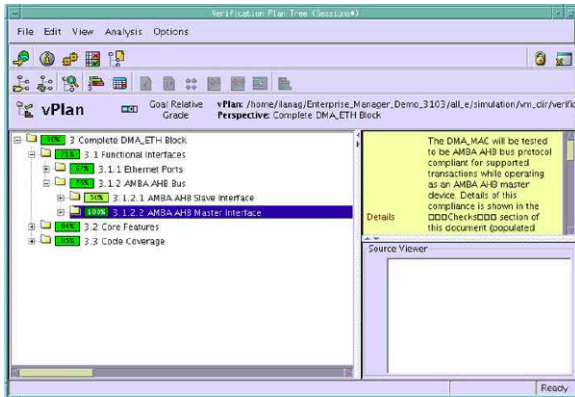

Figure 2: Coverage grades mapped to the features in the plan
- Have a plan that is always kept up-to-date and is executable. Your total coverage results after regressions will be mapped directly into your plan. This is what your progress and completion will be measured against. An executable plan allows for coverage grades to be mapped to the features in the plan (Figure 2).